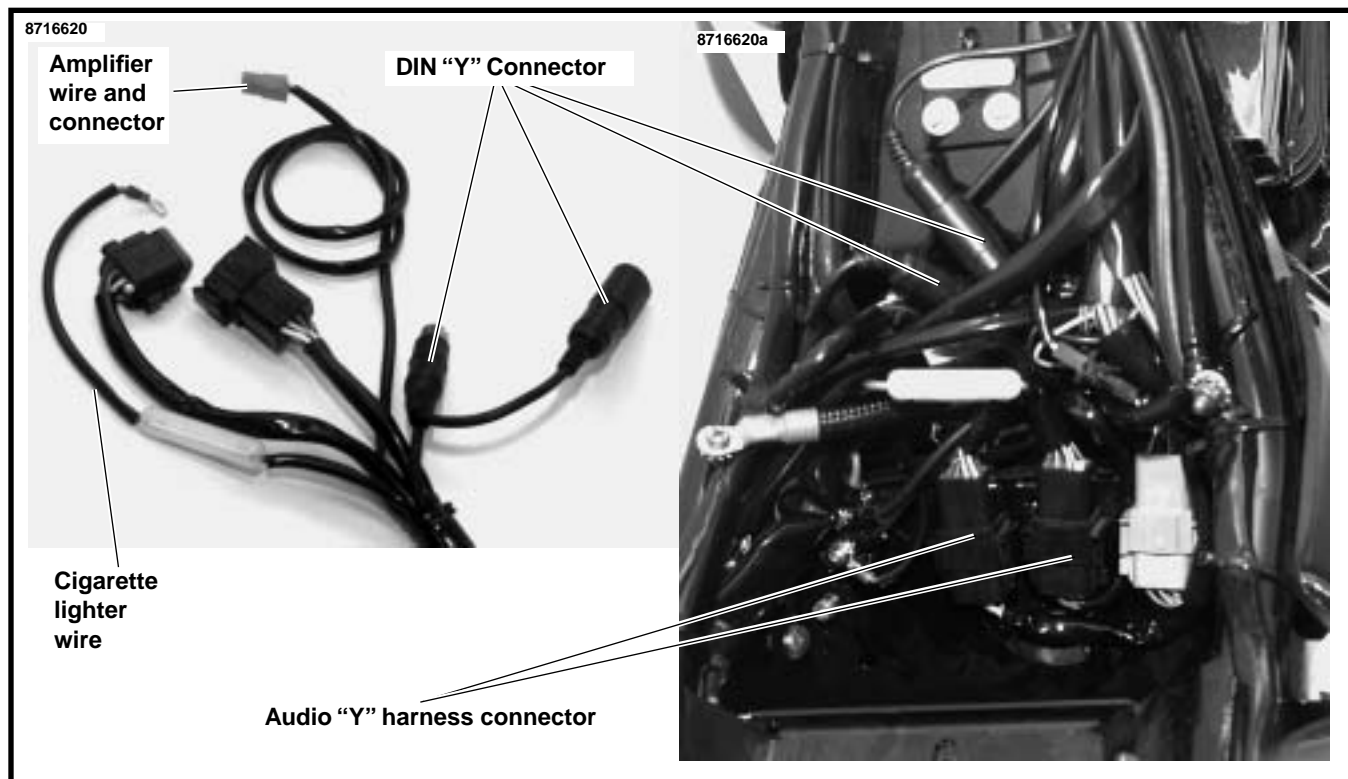

Figure 22. 1994 Sidecar Audio Harness
2. See Figure 22. Disconnect motorcycle audio harness connector [52]. Disconnect motorcycle DIN connector [49].